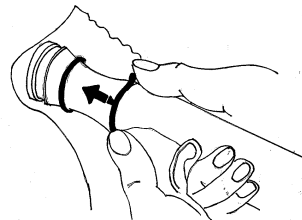

Figure 10.
7	Carefully remove the two (2) O-Rings from their grooves and slide them to the narrow area of the Plunger. See Figure 10. TIP: Use a paper towel to squeeze the O-Ring on opposite sides. This makes it easier for you to grab the O-Ring.